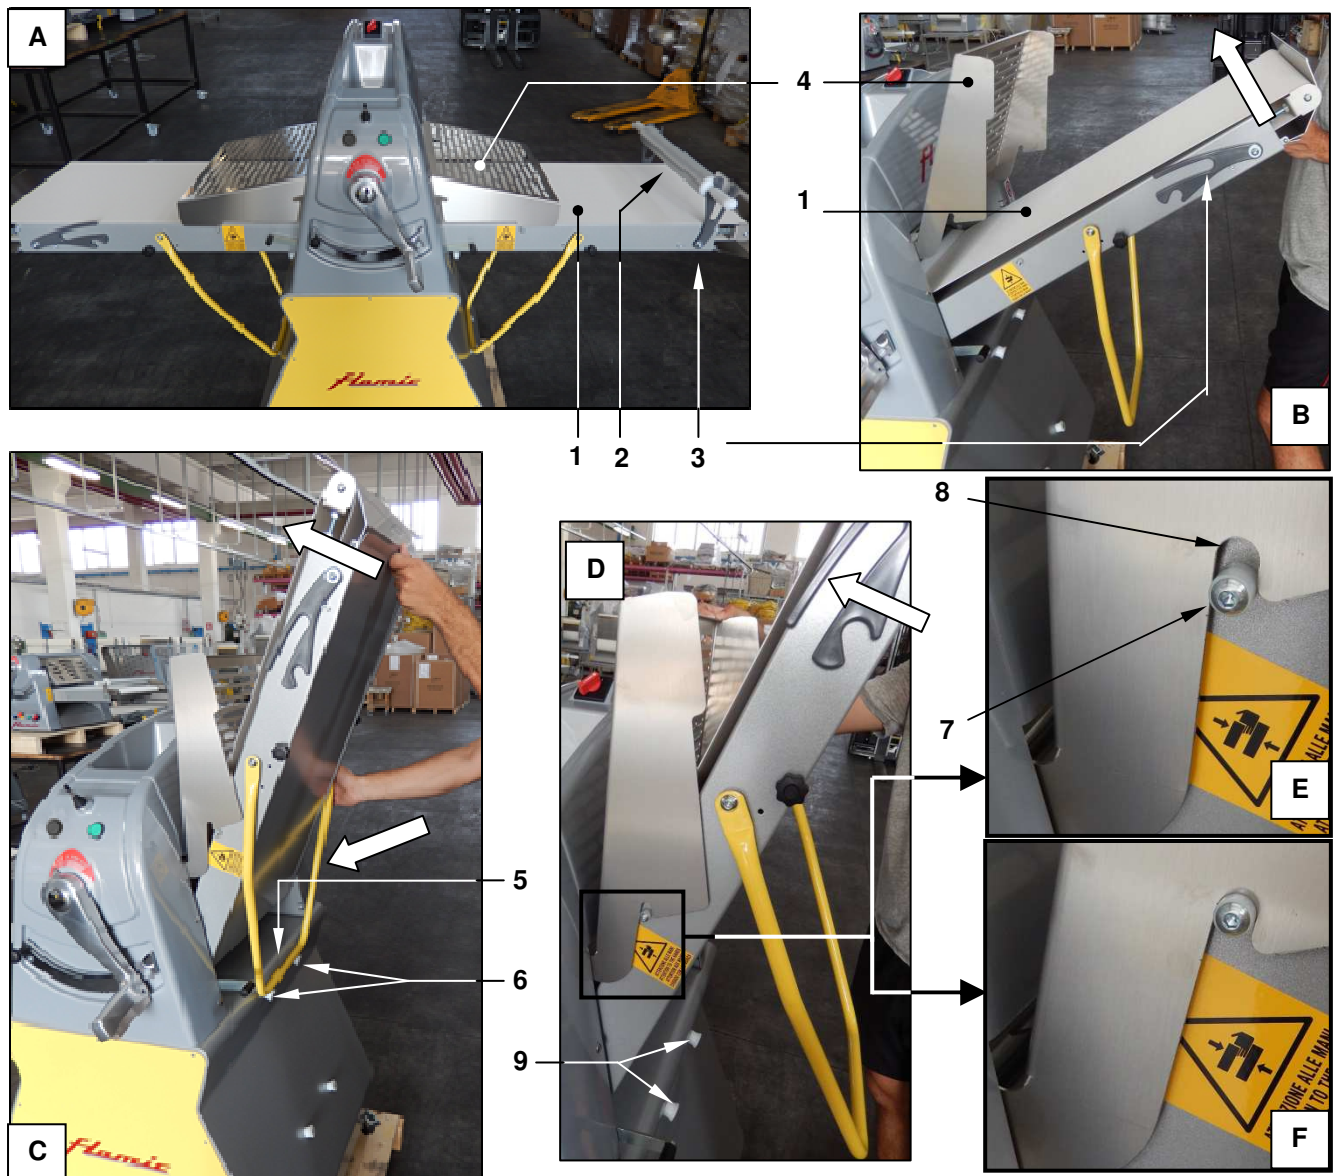

Figure 17 - Raising/lowering the benches (mod. SF500)
With reference to Figure 17, to move a bench ref. 1 from the position shown in photo A to the position shown in photo C or F:
- remove any rolling pins ref. 2 there may be and lower the relative supports ref. 3
- raise the guard ref. 4 completely (see section 3.5.1)
- raise the bench ref. 1 (photo B)
- for table lengths of  $\leq 850$  mm: whilst keeping the table raised with one hand, with the other, place the horizontal bar of the support ref. 5 onto the blocks ref. 6 (photo C)